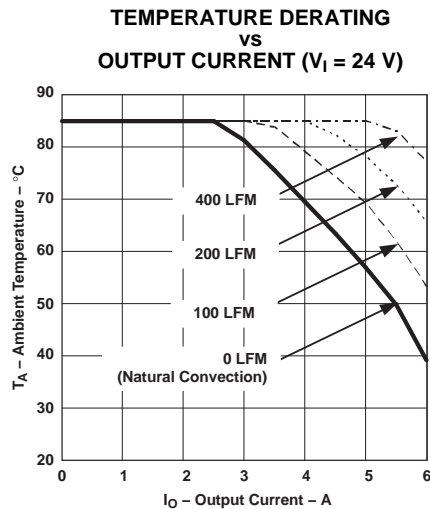
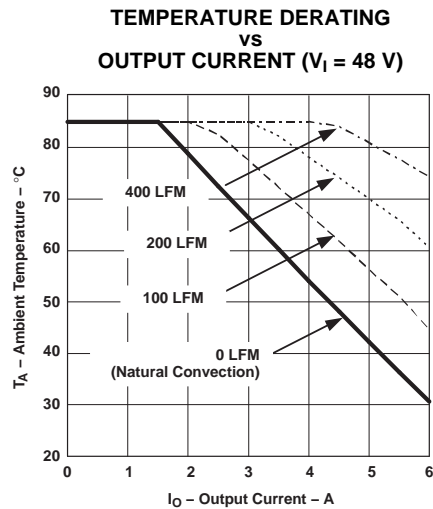

Figure 14.
Figure 15.
- (6) The temperature derating curves represent operating conditions at which internal components are at or below manufacturer's maximum rated operating temperature. Derating limits apply to modules soldered directly to a 100-mm x 100-mm, double-sided PCB with 2 oz. copper. Applies to Figure 14, and Figure 15.